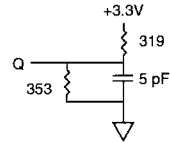

Fig. 2 OUTPUT LOAD EQUIVALENT
- 1HZCE, 1HZOE and 1HZWE are specified with CL = 5pF as in Fig. 2. Transition is measured ±200mV from steady state voltage.